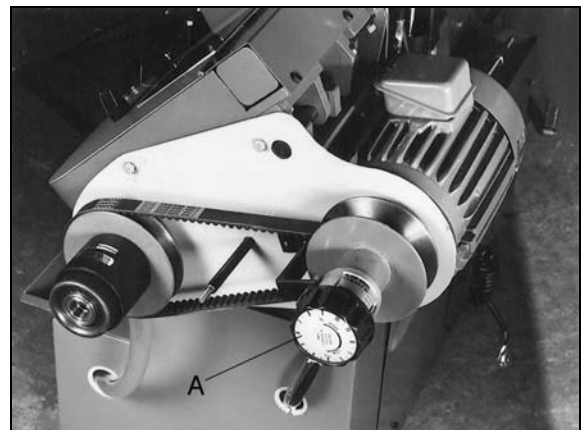

Fig. 13
2. Turn handle knob (A) Fig.13 clockwise to increase the speed.